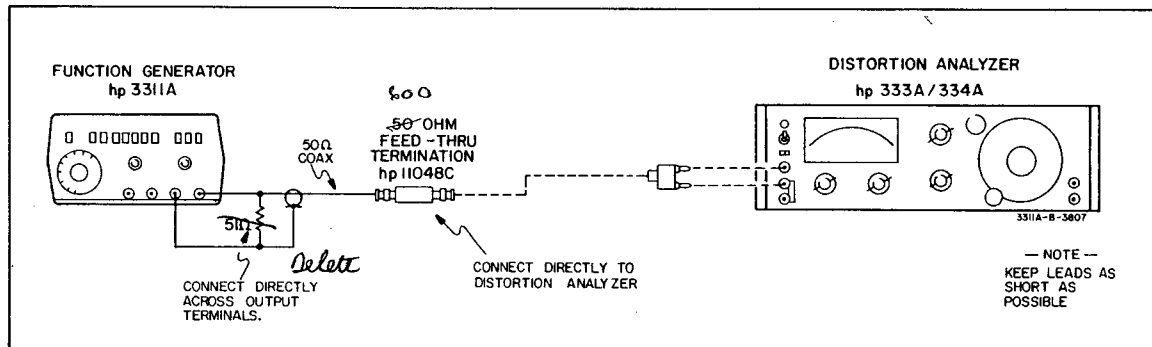

Figure 5-3. Distortion Test.
a. Connect the equipment as shown in Figure 5-3.